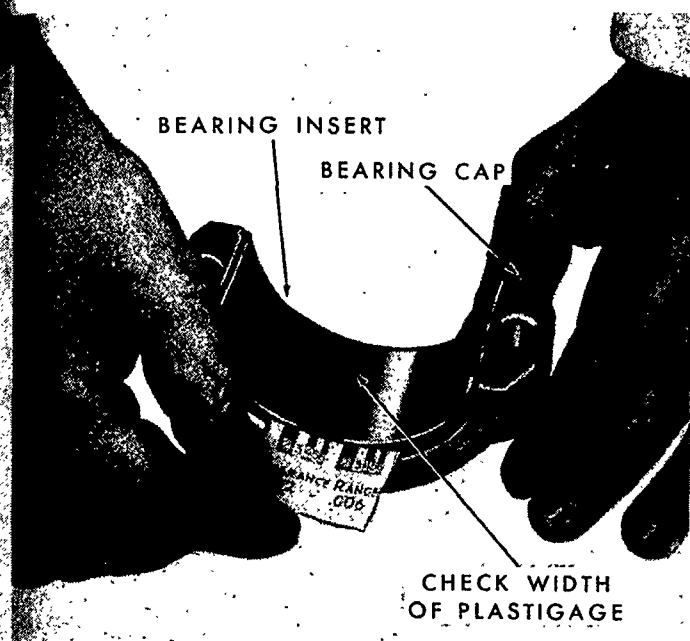

Figure 74
4. Remove the cap. Using the Plastiguage scale on the package, Figure 74, check the width of the Plastiguage. When checking the width of the Plastiguage, check at the widest point in order to get the minimum clearance. Check at the narrowest point in order to get the maximum clearance. The difference between the two readings is the taper.